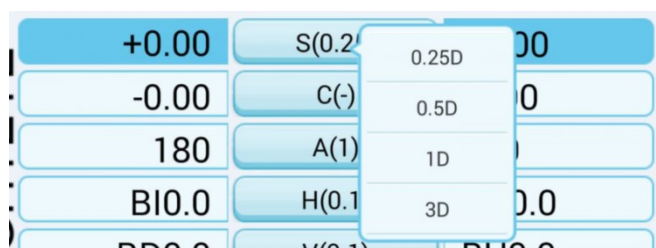

Figure 5.4 Sphere step-length menu
*Long press any button of the 1,2,3 for at least one second, the sphere step-length select menu will appear, click to select the needed sphere step-length. Sphere step-length menu is showing in figure 5.4, button functions are as below: